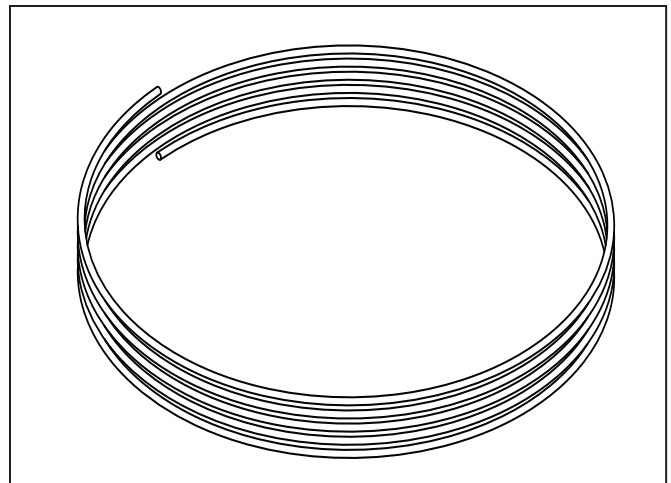
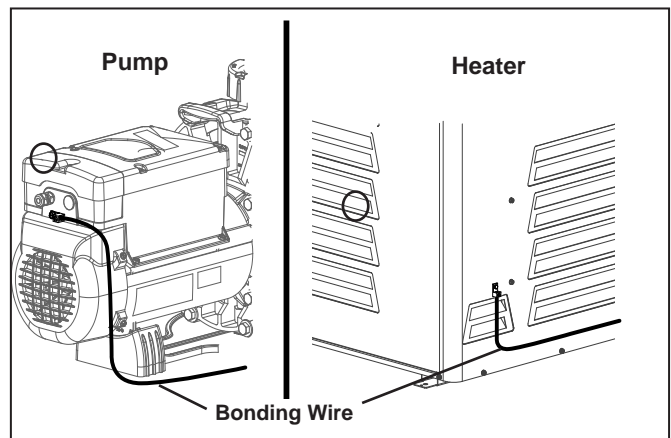

Figure 18. Bonding Wire
Figure 20. Bonding Lug Locations
18. Attach one end of the bonding wire to the bonding lug located on the bottom of the chassis backplate on the power pack (see Figures 18 and 19). Attach the second end to a common bonding point such as the pool pump or heater. Make sure to refer to the pump or heater manual for the location of the bonding lug connection prior to making this connection. See Figure 20 for examples of bonding lug locations. Do not use the power pack as the common bonding point. There should only be one bonding connection to the power pack. Each piece of non-related pool equipment requiring a ground should also be bonded to the common, approved bonding point.